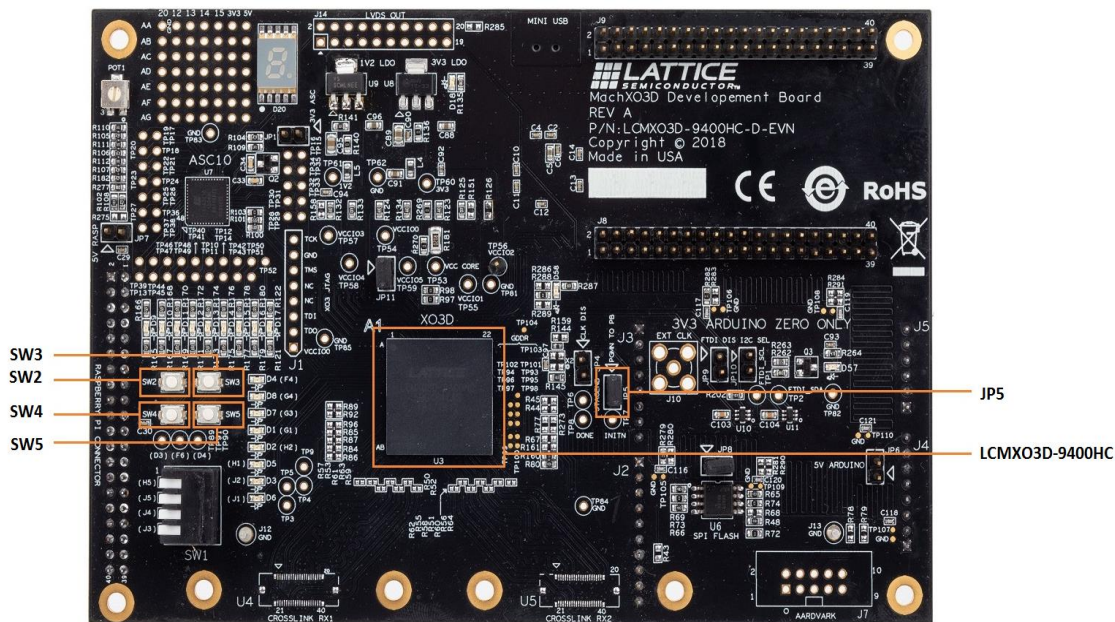

Figure 6.15. Auto Background Reconfiguration
1. Set JP5 by adding jumper on, as shown in Figure 6.15.